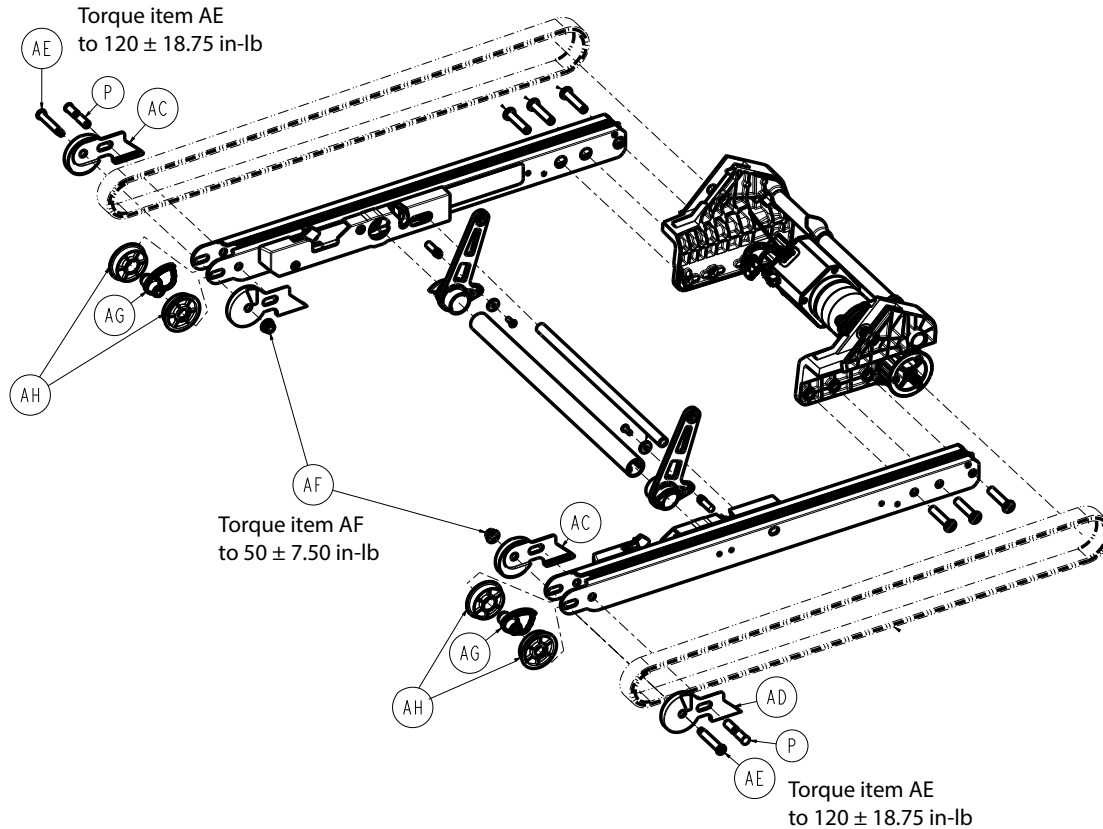

Figure 23 –
5. Using a 1/2" combination wrench, loosen the flanged Nylock hex nut (AF) that secures the track roller (AH) to the track assembly (Figure 23). Do not remove the nut.
6. Using a 7/32" hex driver and torque wrench, turn the track tension bolt (AE) until you hear a loud click (one notch) or 120 ± 18.75 in-lb (Figure 23).